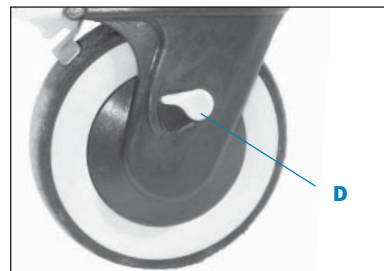

Figure 7
- Place clamps on the inside or the outside of the top bar (Figures 7 & 8).
- Use knob (A) to slide sides of chest prompt in or out.